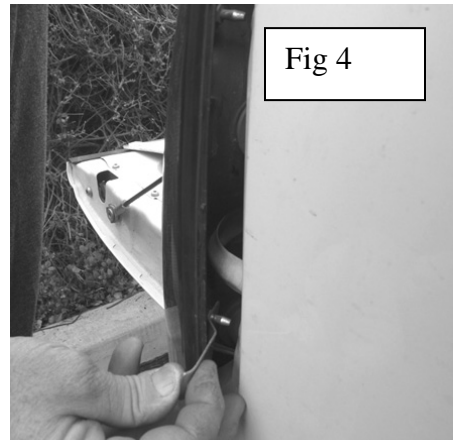

Fig 4
- Install the small bracket over the bottom taillight locating stud and reinstall the tail assembly, hold on to the bracket so not to damage paint. (Fig 4)